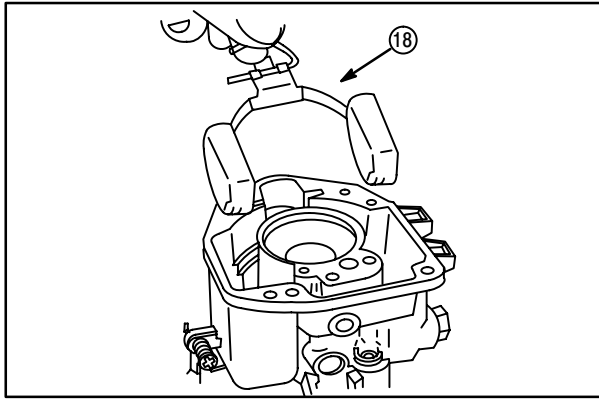

**Fig. 89**
11. Install fixed main jet (14) using Screwdriver #19062, **Fig. 89**.
12. Install washer (15) and plug (16) or anti-afterfire solenoid (17). Torque to **45 in. lbs. (5 Nm)**.
13. Install idle mixture screw (13) and spring (12).